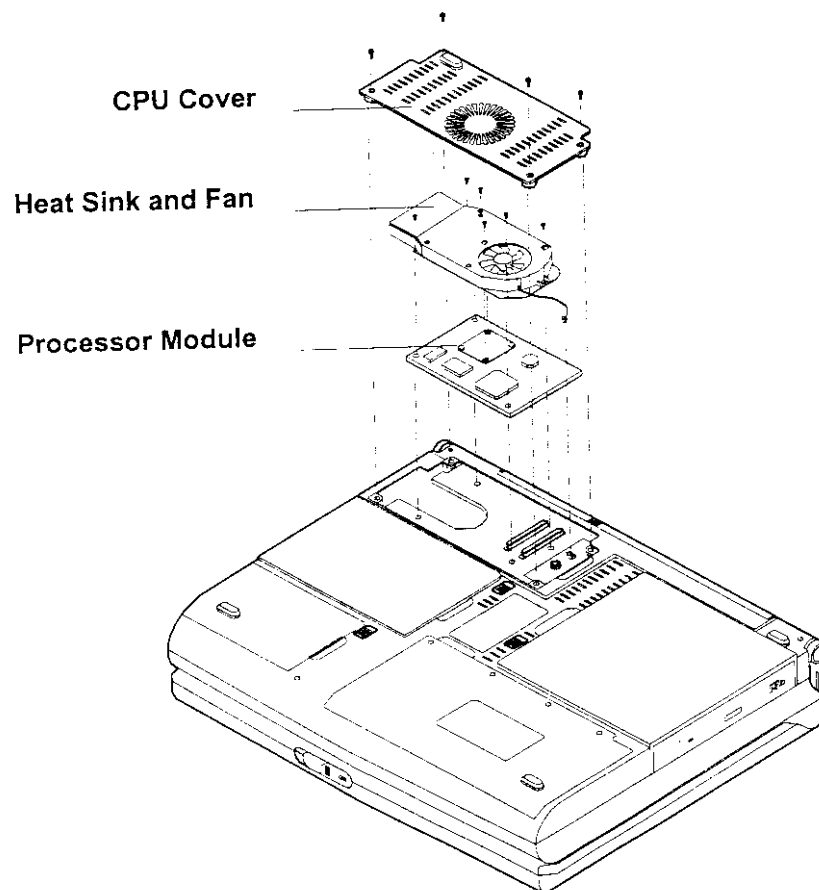

Figure 2-2
5. Carefully detach the Processor Module from the mainboard (Figure 2-2).